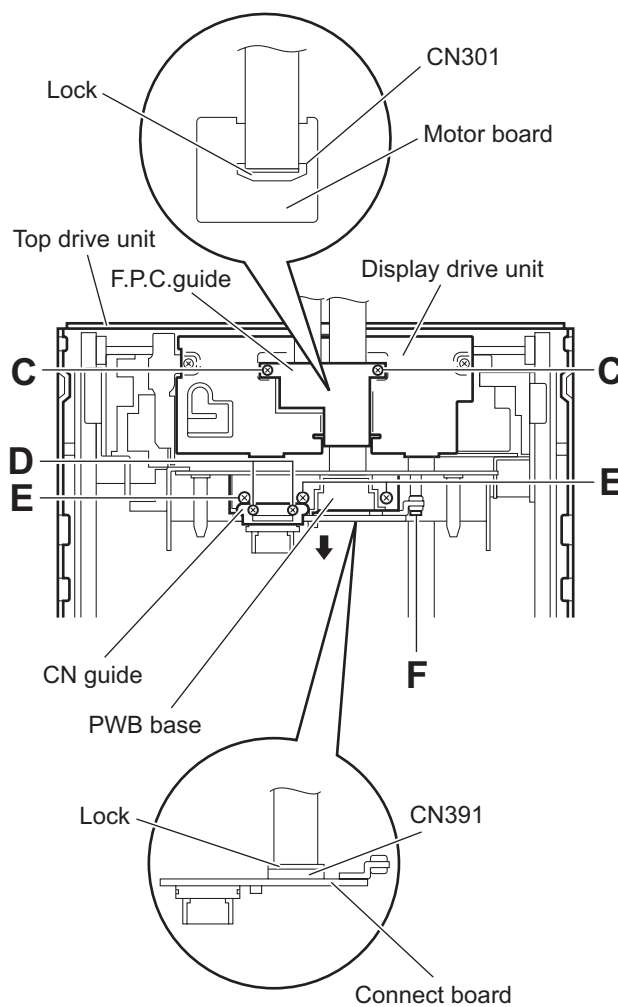

Fig.8
- (3) Remove the top drive unit from the main body and turn it inside out. (See Fig.8.)
- (4) Remove the two screws **C** attaching the F.P.C. guide on the display drive unit. (See Fig.8.)
- (5) Release the lock of the connector **CN301** on the mechanism board and disconnect the flexible wire. (See Fig.8.)
- (6) Remove the two screws **D** attaching the CN guide. (See Fig.8.)
- (7) Remove the three screws **E** attaching the PWB base. (See Fig.8.)
- (8) Remove the screw **F** attaching the connect board. (See Fig.8.)
- (9) Take out the connect board in the direction of the arrow. (See Fig.8.)
- (10) Release the lock of the connector **CN391** on the connect board and disconnect the flexible wire. (See Fig.8.)